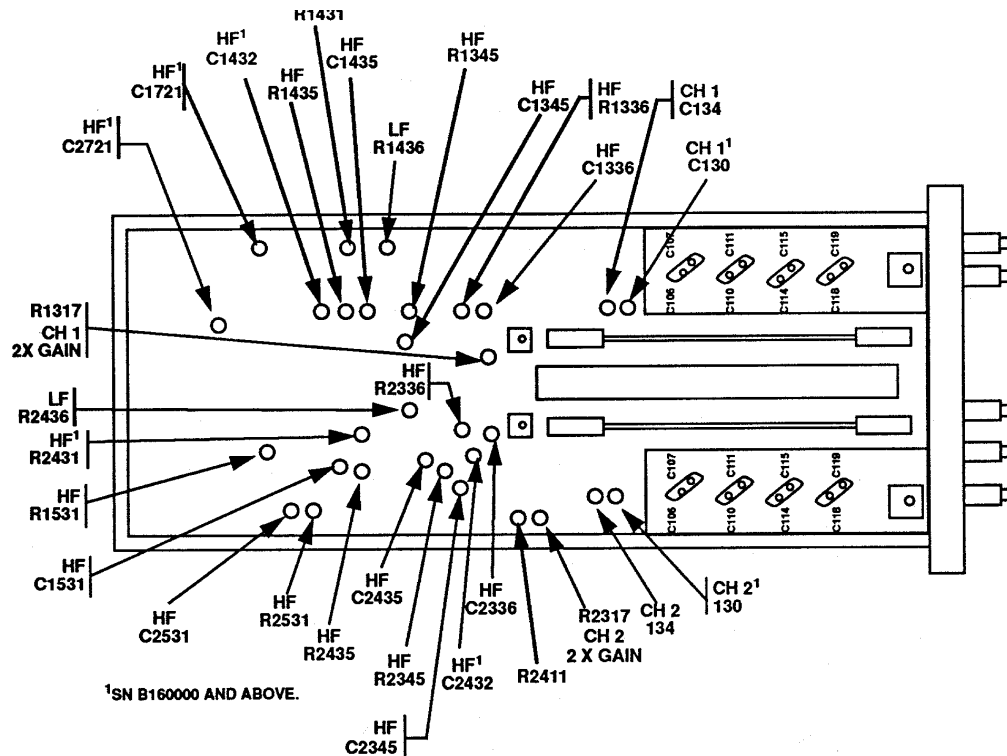

Figure 3. AM-6785/U and Tektronix, Type 7A26 - left side view.
(16) Connect oscilloscope calibrator **CHAN 1** to TI **CH 1** using a 50Ω feedthrough termination. Ensure oscilloscope calibrator **CHAN 1** output is selected by using technique in step (1) above.
(17) Set **DISPLAY MODE** switch to **CH 1** and **CH 1 VOLTS/DIV** switch to **10 mV**.
(18) Set oscilloscope calibrator to **EDGE**, and output a 60 mV, 1 kHz output.
(19) Adjust **CH 1 POSITION** and time base controls as necessary to view display.
(20) Rotate oscilloscope calibrator knob located below **EDIT FIELD** pushbutton to obtain 6 divisions on oscilloscope display. If displayed waveform does not have flat tops, perform **b(13)** below (**CH 2, b(14)** below).
(21) Remove 50Ω feedthrough termination from oscilloscope calibrator **CHAN 1** and **TI CH 1**. Reconnect oscilloscope calibrator **CHAN 1** to TI **CH 1** using a 5-80 pF standardizer. Rotate oscilloscope calibrator knob located below **EDIT FIELD** pushbutton to obtain 6 divisions 6 divisions of vertical display.
(22) Adjust standardizer for optimum square corner and flat top. If standardizer cannot be adjusted for optimum square wave, adjust **CH 1 C134** (fig. 3) (**CH 1 C130** (fig. 3) for **SN B160000** and above) to midrange and readjust standardizer for optimum square wave.
VOLTS/DIV switch settings	CH 1 and CH 2 adjustments (fig. 3) ¹
(1) Ensure oscilloscope calibrator output and TI **VOLTS/DIV** switch setting is set as indicated in first row of table 8.
(2) Adjust **CH 1 GAIN** (front panel) for 4 divisions of amplitude.
(3) Set **CH 1 VOLTS/DIV** switch to **10 mV** and oscilloscope calibrator output for 50 mV.
(4) Adjust R1317 CH 1 2X GAIN (fig. 3) for 5 divisions of amplitude (R).
(5) Ensure oscilloscope calibrator output and TI **VOLTS/DIV** switch setting is set as indicated in first row of table 9.
(6) Adjust **CH 2 GAIN** control (front panel) for 4 divisions of amplitude.
(7) Set **CH 2 AC-GND-DC** switch to **AC**.
(8) Adjust R2411 (fig. 3) polarity gain for minimum gain change while switching **CH 2 POLARITY** switch between **+UP** and **INVERT**.
(9) Set **CH 2 AC-GND-DC** switch to **DC** and repeat (6) through (8) above until no further adjustments are needed.
(10) Set **CH 2 AC-GND-DC** switch **DC** and **VOLTS/DIV** switch to **10 mV**.
(11) Set oscilloscope calibrator output controls for 50 mV at 1 kHz.
(12) Adjust R2317 CH 2 2X GAIN (fig. 3) for **5** divisions of amplitude (R).
(13) Adjust LF R1436 and R1431 (LF R1436 for SN 159999 and below) (fig. 3) for best flat top (minimum tilt) (R).
(14) Adjust LF R2436 and HF R2431 (LF R2436 for SN 159999 and below) (fig. 3) for best flat top (minimum tilt) (R).
(1) Adjust HF C1336, HF R1336, HF C1432, HF C1435, HF R1435, HF C1531, HF R1531, HF C1345, and HF R1345 (fig. 3) for optimum front corner and flat top (R).
(2) Adjust HF C2336, HF R2336, HF C2432, HF C2435, HF R2435, HF C2531, HF R2531, HF C2345, and HF R2345 (fig. 3) for optimum front corner and flat top (R).